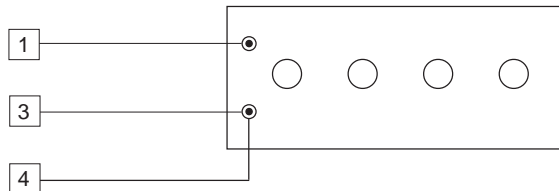

Fig. 5.6
- a) Connect a resistor box as shown in Fig. 5.6.
- a) Set the resistance box to 500.00 Ω (see Fig. 5.6).
- a) The display will show "25000 Ω " ± 10 counts otherwise set the resistance box to 500.00 Ω (see Fig. 5.6)